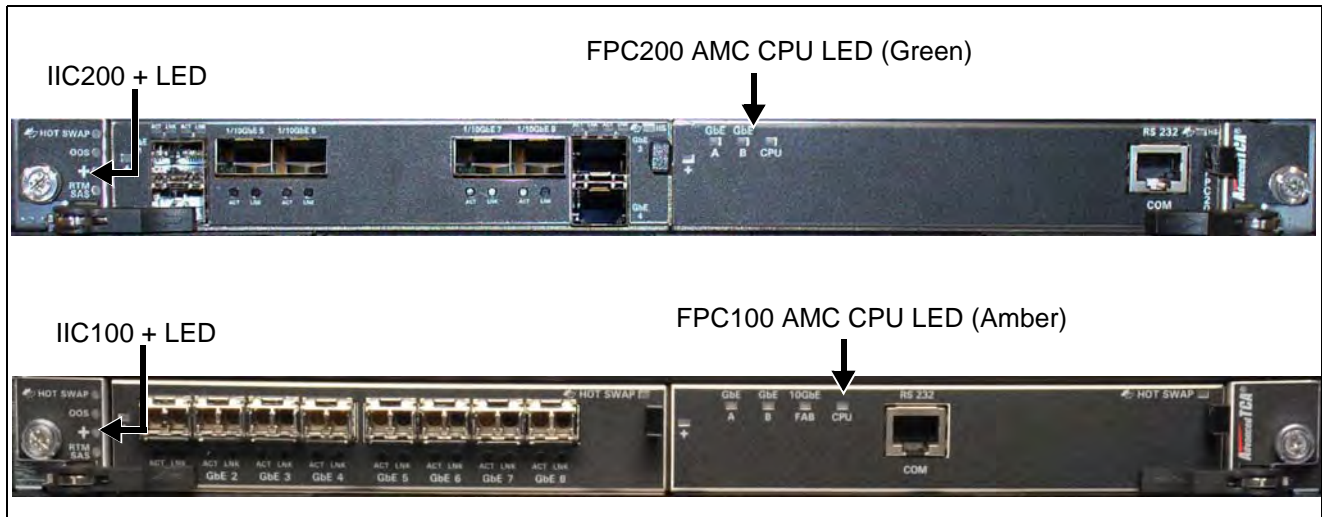

Figure 4.5 - G10 IIC100/IIC200 LED Verification
6. Verify the following LEDs on the front of the IIC100 (Figure 4.5):